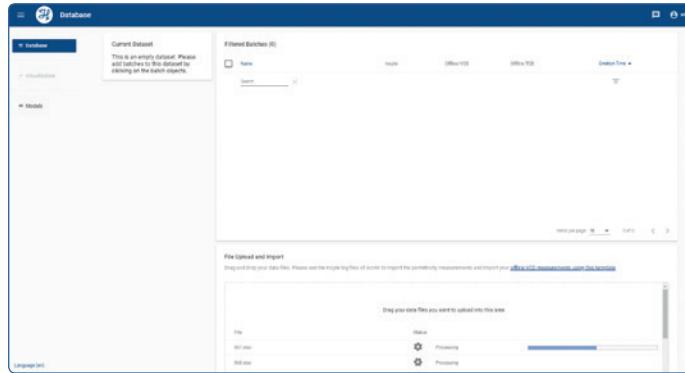

Figure 48: Database View with Data Import running
- 2) Upload the data in the file upload and import section by drag and drop (figure 48), make sure the batch names of the offline and online data are the same, as offline and online data are combined during this procedure.